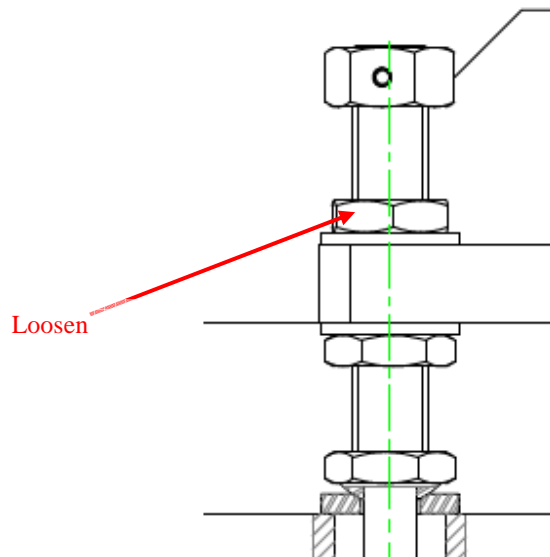

Figure 2
2. Using a 36mm spanner, loosen off the top lock nut by turning it counter-clockwise (see figure 2).